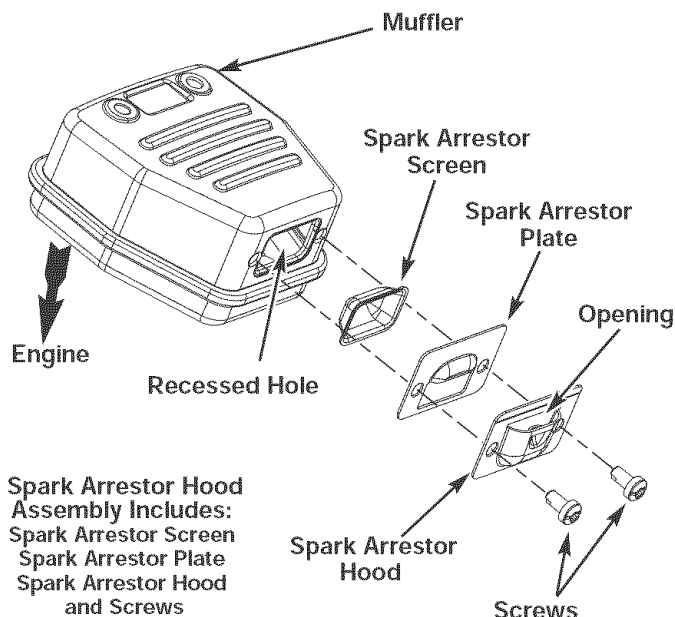

Fig. 23
2. Locate the muffler, but do not remove it. Find the two (2) screws on the bottom of the muffler (Fig. 23). These two screws hold the Spark Arrestor Hood Assembly and the spark arrestor screen to the bottom of the muffler. Remove the two (2) screws using either a Torx T20 or flat blade screwdriver.
6. Place the spark arrestor plate on top of the spark arrestor screen with the raised side up and the opening facing toward the engine (Fig. 23).
7. Place the spark arrestor hood on top of the spark arrestor plate with the "raised" side up and the opening facing AWAY from the engine (Fig. 23). Verify that the exhaust will be directed AWAY from the engine.